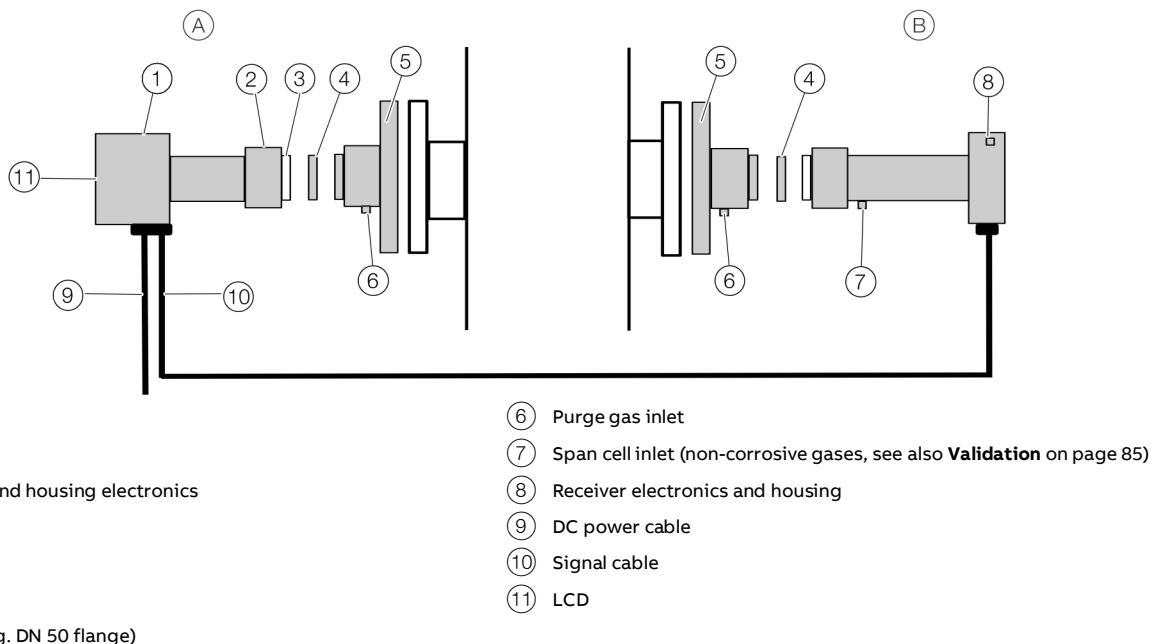

Figure 25: General view of AO2000-LS25
1. Install the purging flanges (5) on the stack flanges using 4 M16 × 60 screws each, see **Figure 25**.